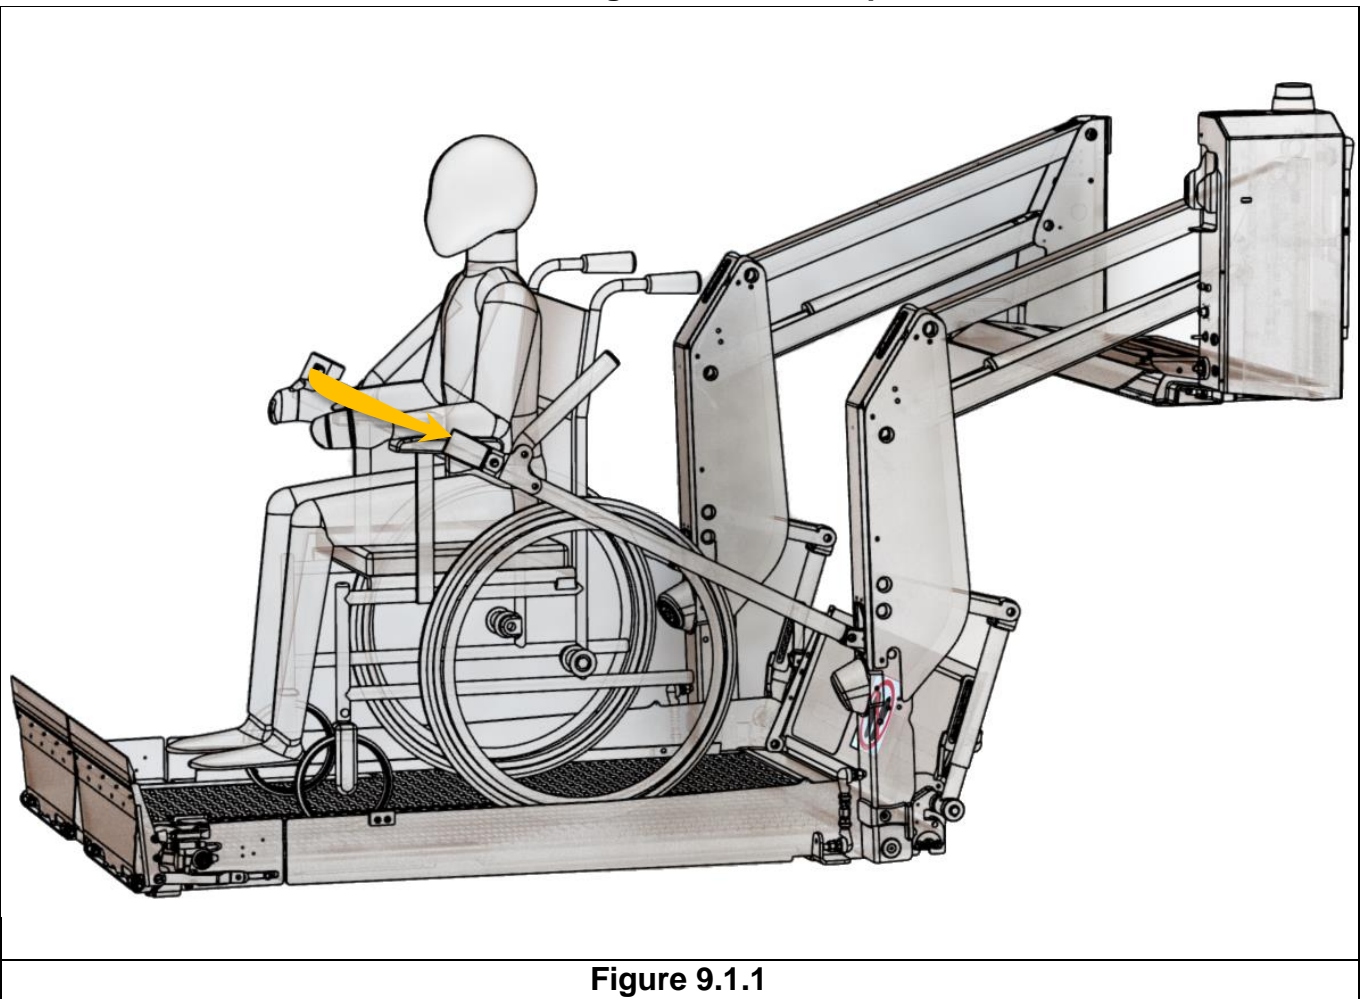

Figure 9.1.1
- Ensure the platform is always level see Figures 9.1.1 and 9.1.2. (horizontal, not more than 5°).
- Wheelchair user should point away from the Vehicle for loading and unloading. Connect (Buckle) the handlebar seatbelt (if fitted) as shown in Figure 9.1.1